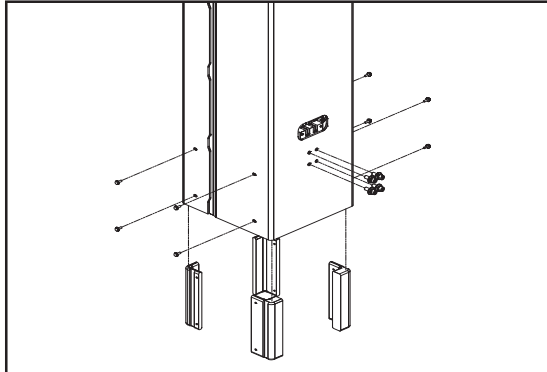

Figure 5-12. Mast 3 Components Removal
3. Remove the inner chain mount bolts and wear pads on mast 3. See Figure 5-12.